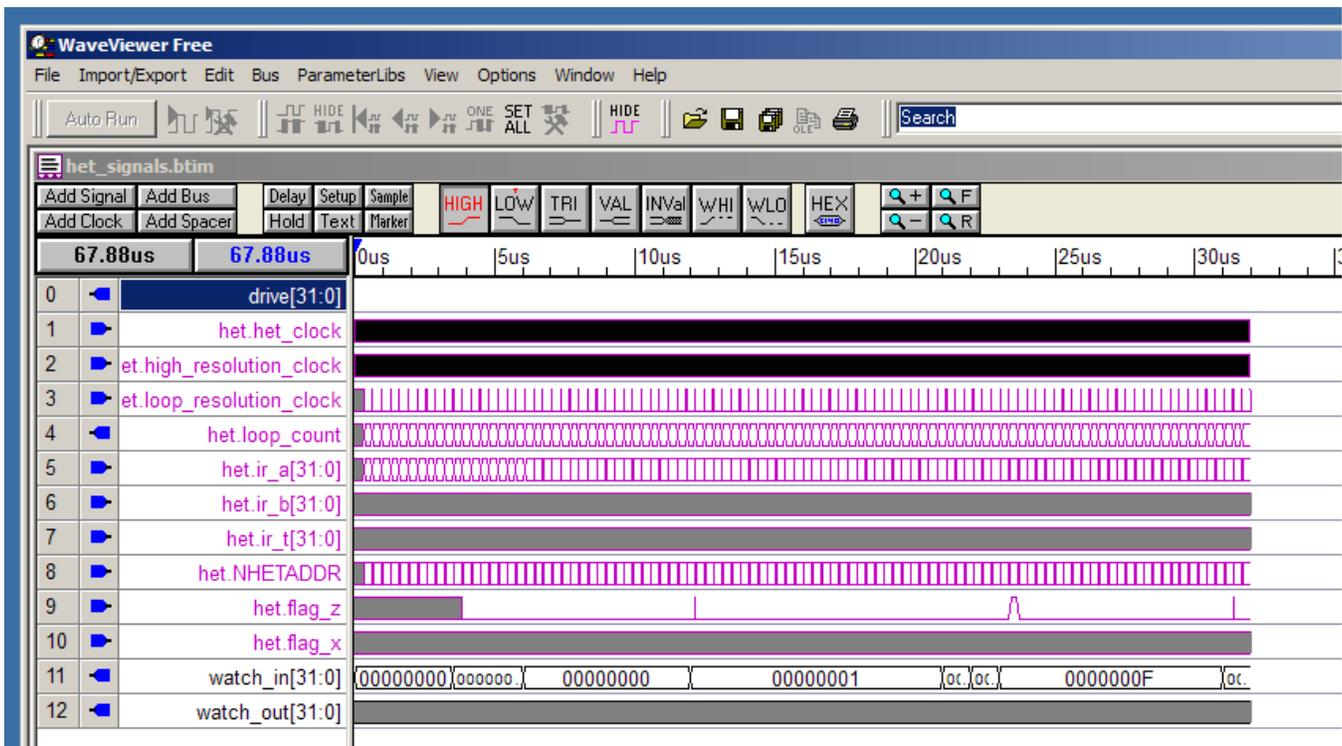

Figure 55. Simulation Results - Stimulus From VCD File Appears in 'watch_in[31:0]' Trace
6. Switch to the Waveform Viewer Free and inspect the results. Your screen (after zooming) should look like Figure 55.